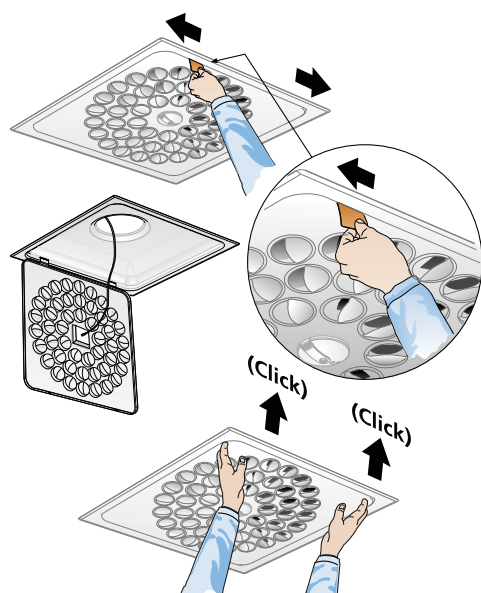

Figure 13. Quick Access.
3. Dismantle the bottom section of the air diffuser according to the Quick Access principal, see Figure 13.